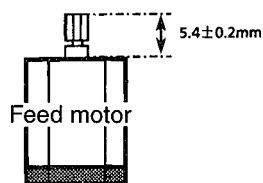

Fig. 31 Press-in dimensions of feed motor gear
2. Press in the gear to the feed motor as indicated in Fig. 31.